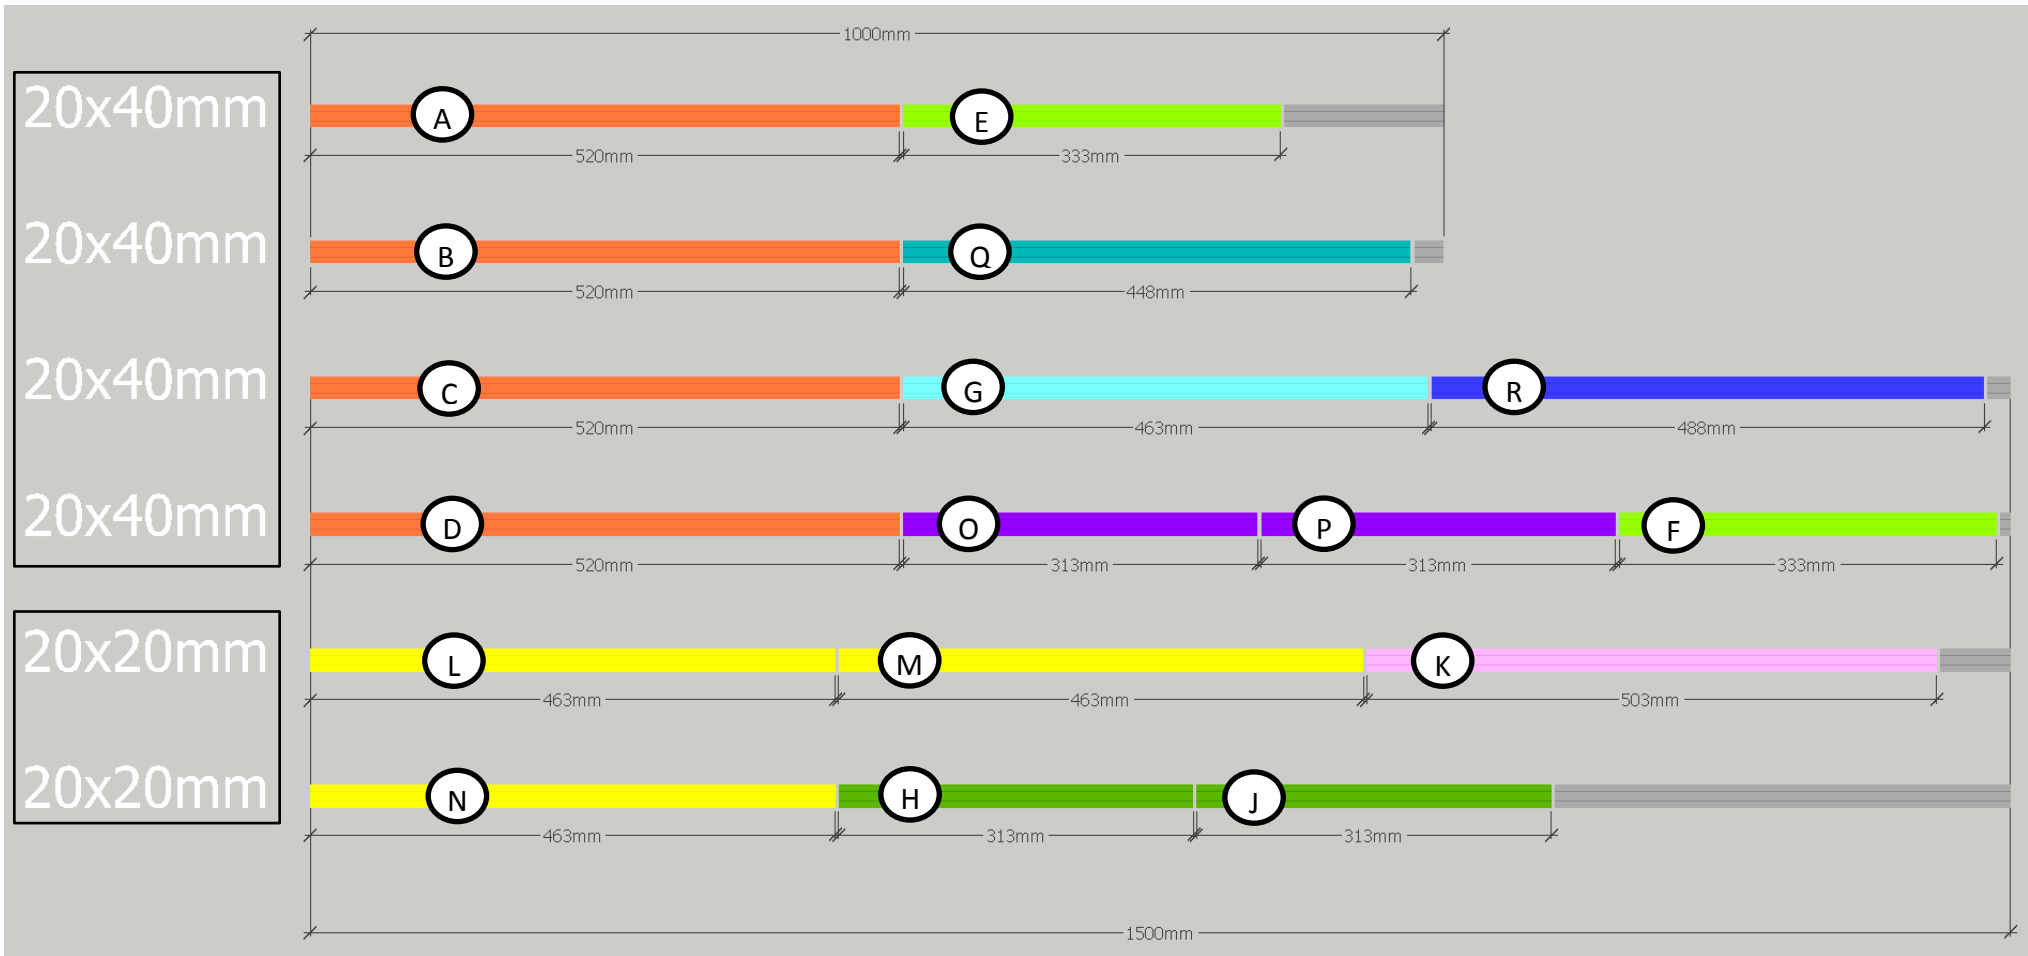

Figure 1: V-slot railing cut diagram
- Layout, measure, and mark the six V-slot rails to the proper lengths as shown in Figure 1. Label alphabetically as shown, these labels will be referenced during assembly.